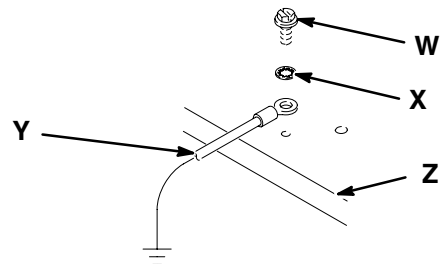

Fig. 1
1. *Pump*: unscrew the green grounding screw (W) and washer (X), located on the ram base (Z). Install a 1.5 mm² (12 ga) minimum ground wire (Y) and secure with the screw and washer. Connect the other end of the ground wire to a true earth ground. See Fig. 1.